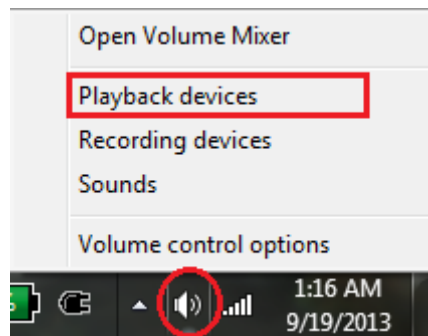

Figure 19: Opening Sound Properties window
- Open *Playback* tab in *Sound* properties window. (Select *Sound* from *Control Panel* or right click on the *Sound* icon in the *Task bar* as shown in **Figure 19**)